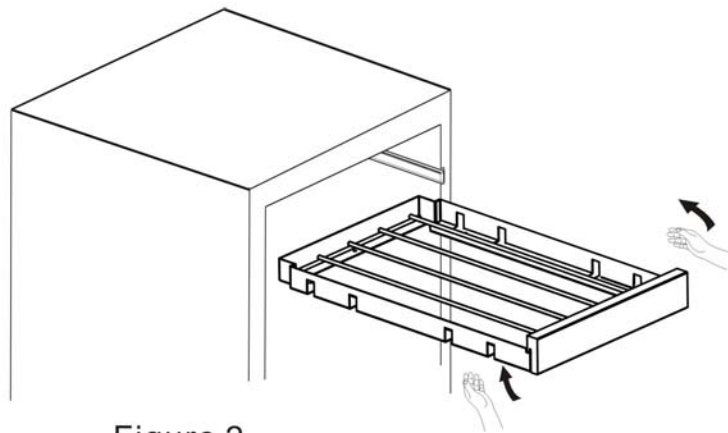

Figure 2
1. Gently push the rack into the sliders. (Fig. 2)